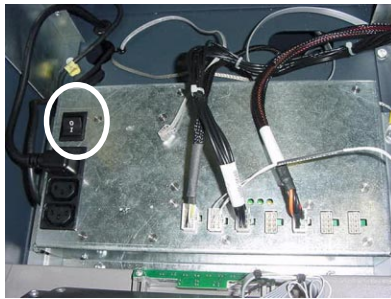

Fig. 7-9. Power supply ON/OFF switch location.
2. Locate the **ON/OFF** switch on the POWER SUPPLY, as shown in Figure 7-9. Move switch to the **OFF <0>** position.